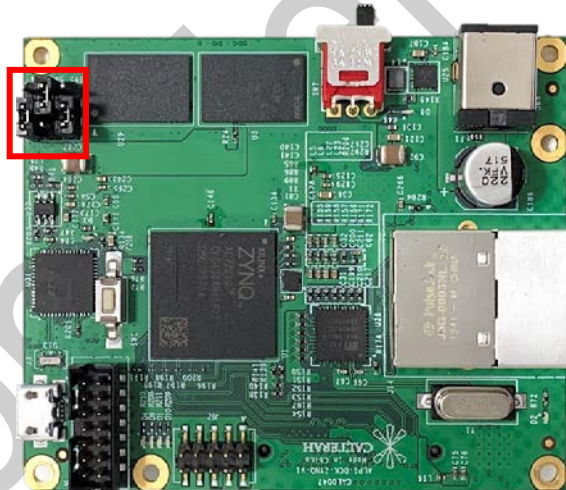

Figure 3: Jumper Cap Status
- a) Please check the **Jumper Cap status** on DCK board. Make sure that the status is the same as shown in Figure 3.